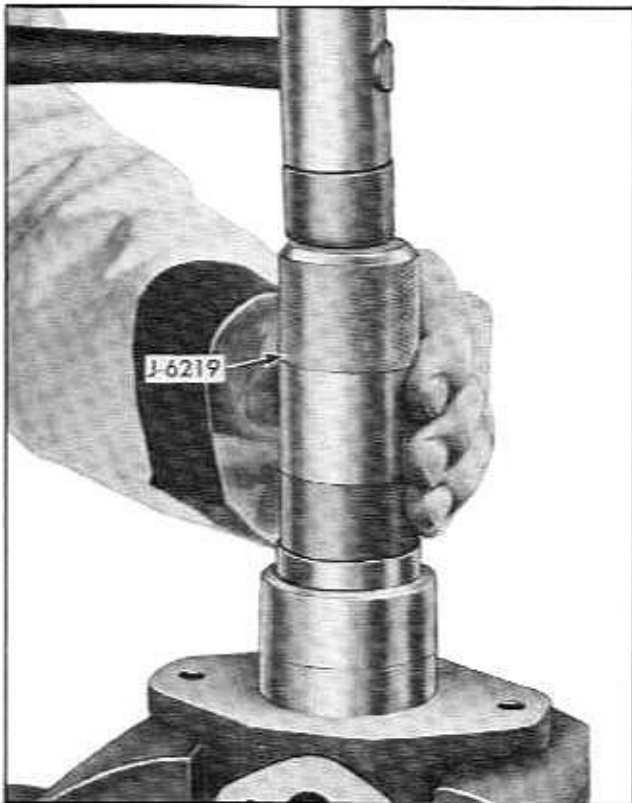

Fig. 9-85 Driving Shaft and Bearing Into Pump Body
5. With pump body in vise drive shaft and bearing assembly into pump body using pitman shaft oil seal tool J-6219 (Fig. 9-85).